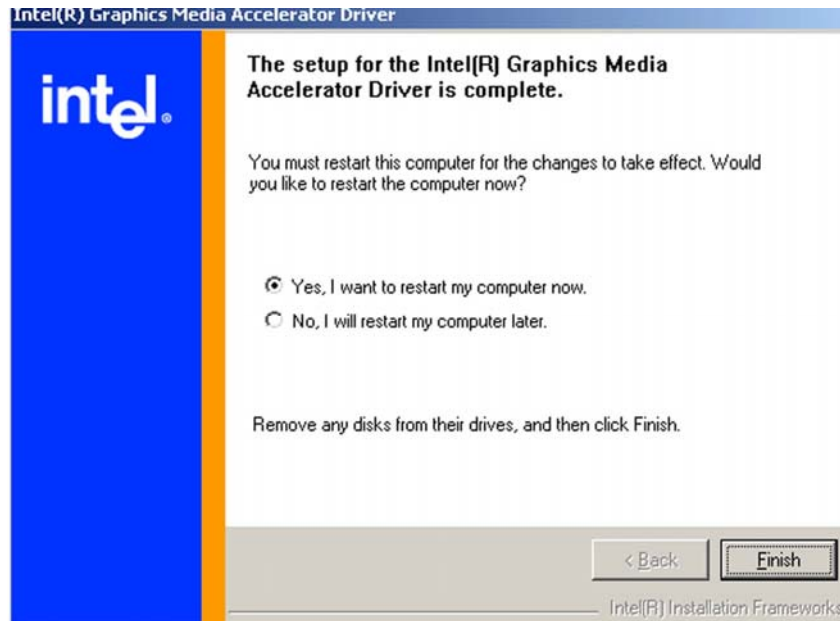

Figure 7-11: VGA Driver Installation Complete
Step 8: After the driver installation process is complete, a confirmation screen shown in **Figure 7-11** appears.
Step 9: The confirmation screen shown in **Figure 7-11** allows user to restart the computer immediately after the installation is complete or to restart the computer later. For the settings to take effect the computer must be restarted. Once decided when to restart the computer, click the "**FINISH**" button.